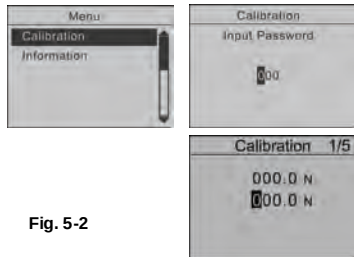

Fig. 5-2
- ① Mount the force gauge.
- ② Remove the tare by use of the key .
- ③ Enter Calibration interface (Fig 5-2)